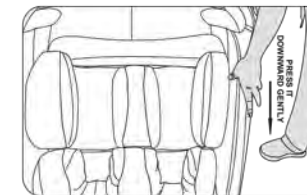

Figure 6
- Gently push the armrest down, and double check that the hook is well locked. (Figure 6)